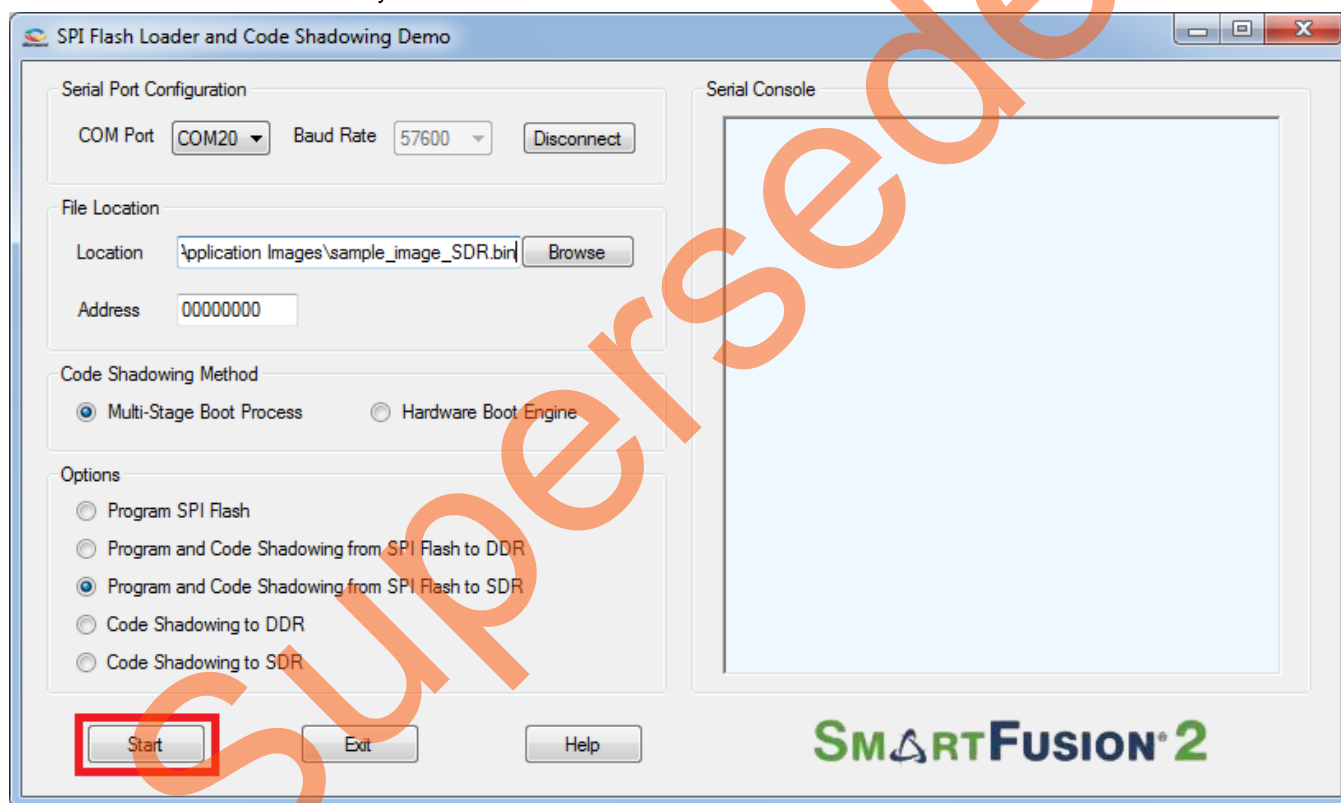

Figure 7. Starting the Demo
8. Click **Start** as shown in Figure 7 to load the executable image into SPI flash and code shadowing from SDR memory.